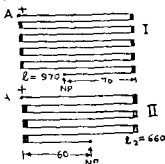

Fig. 17.2
*Note*—Distances of null points are to be measured always from the end A, i. e., where positive pole of the battery and positive electrodes of the cells are all connected. Note these distances very carefully. The students usually read 970 as 930 and 660 as 640 (See the figure 17-2).